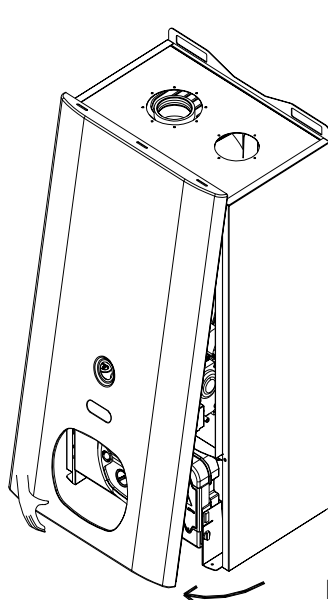
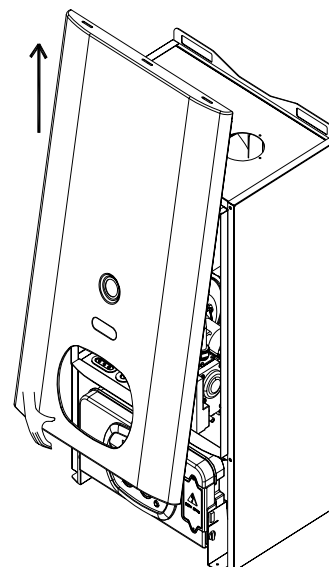

Fig. 1
Fig. 2
- Grasp the lower part of the panel and pull it outwards (fig. 1) and then up (fig. 2).
- Remove the front panel (see fig. 1 and fig. 2).